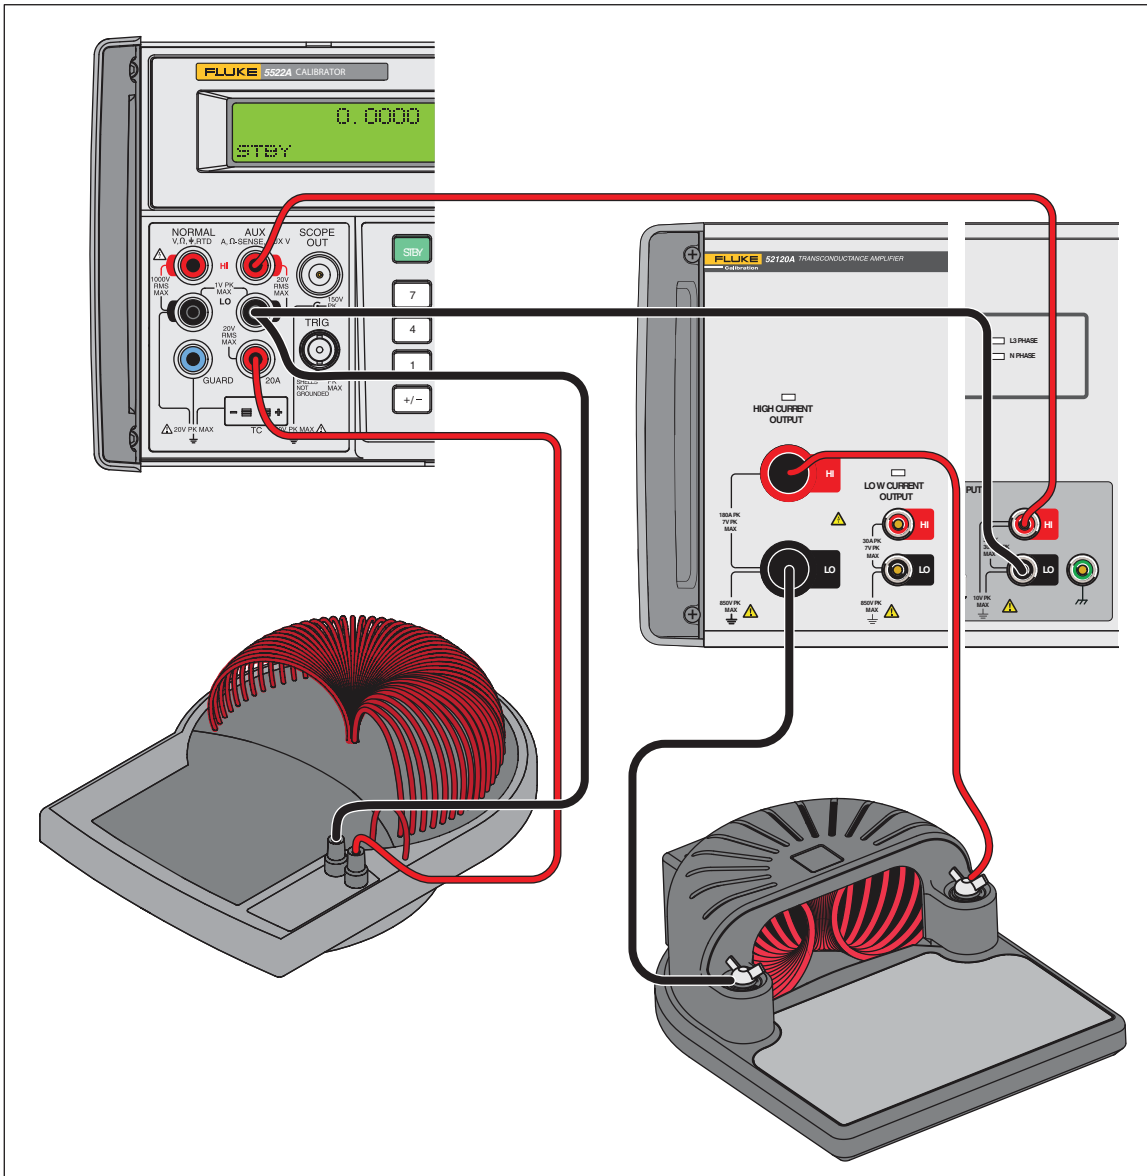

Figure 6. Calibration Connections for 2000 A Clamp
2. Connect the equipment. See Figure 6.